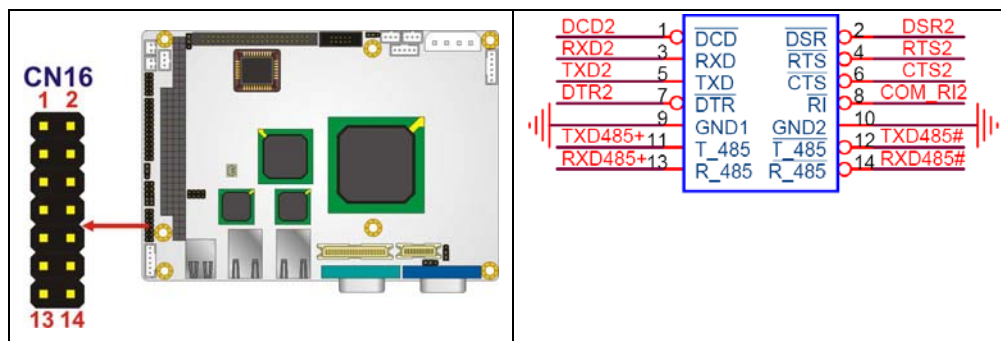

Figure 4-21: RS-232/422/485 Serial Port Connector Location
- CN Location:** See **Figure 4-21**